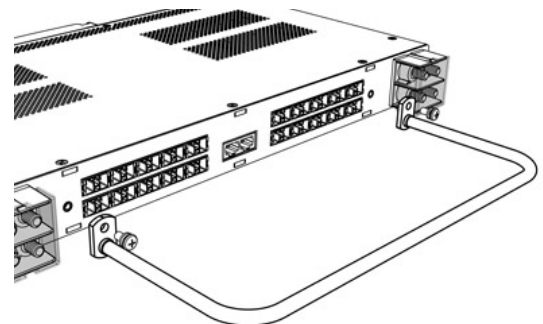

Figure 3. Lacing bar (connectorized models only)
- Step 1.** Attach the output cable lacing bar by tightening the two 10-32 Phillips® head screws into the threaded holes located on the rear of the panel (see Figure 3).